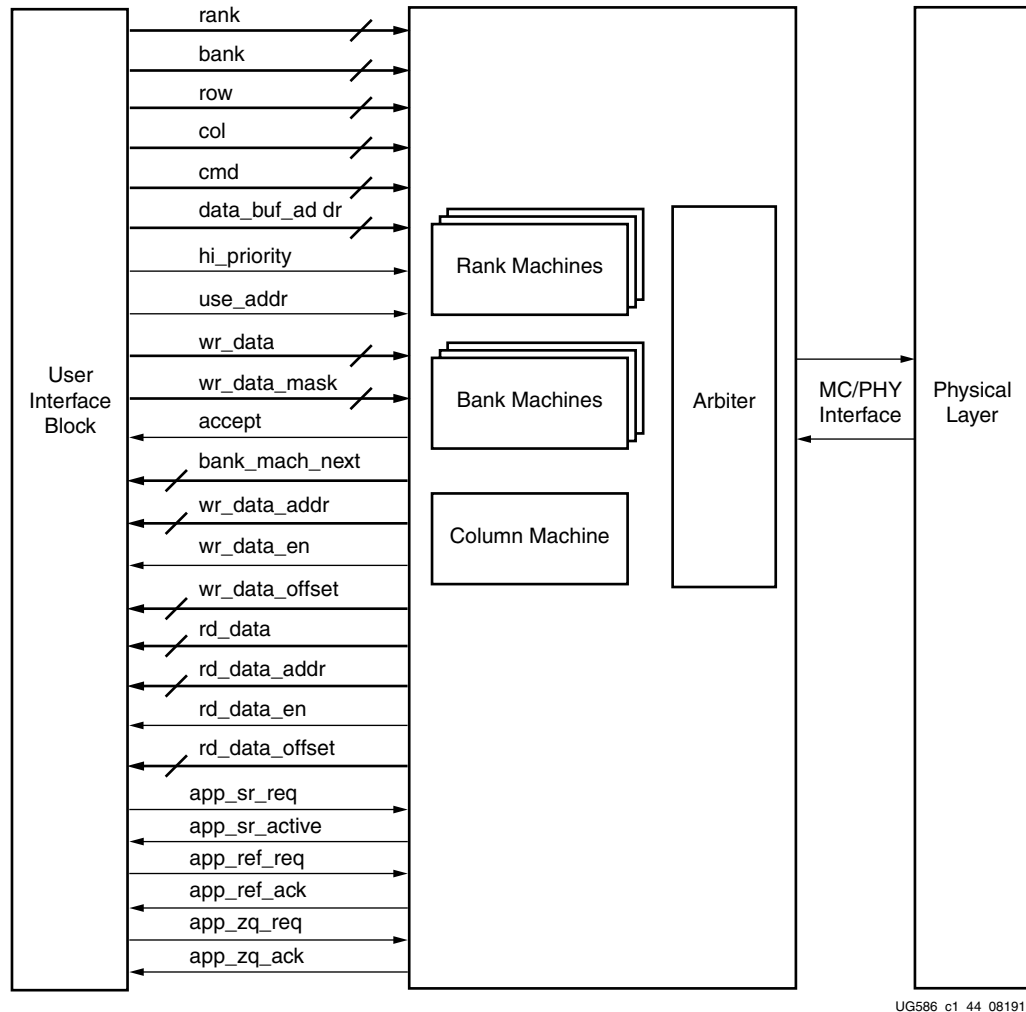

Figure 4-46: Memory Controller
In the core default configuration, the Memory Controller (MC) resides between the UI block and the physical layer. This is depicted in Figure 4-46.